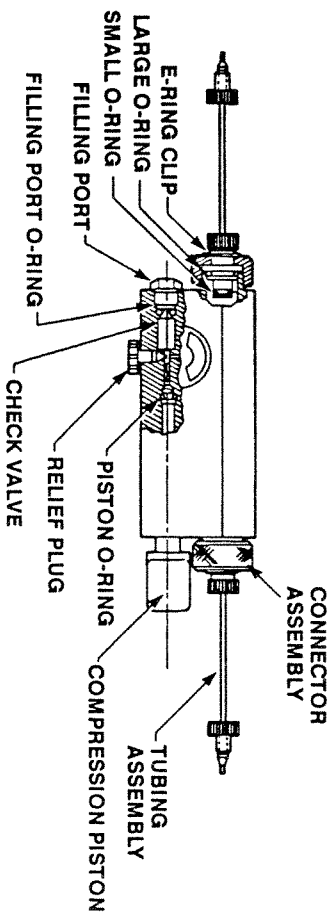

FIGURE 4-1 RCM 8 x 10 MODULE CUTOUT VIEW (NON-METALLIC CONNECTORS)
*A gradual pressure loss is normal. This can be compensated for by screwing in the compression piston (refer to Figure 4-1).